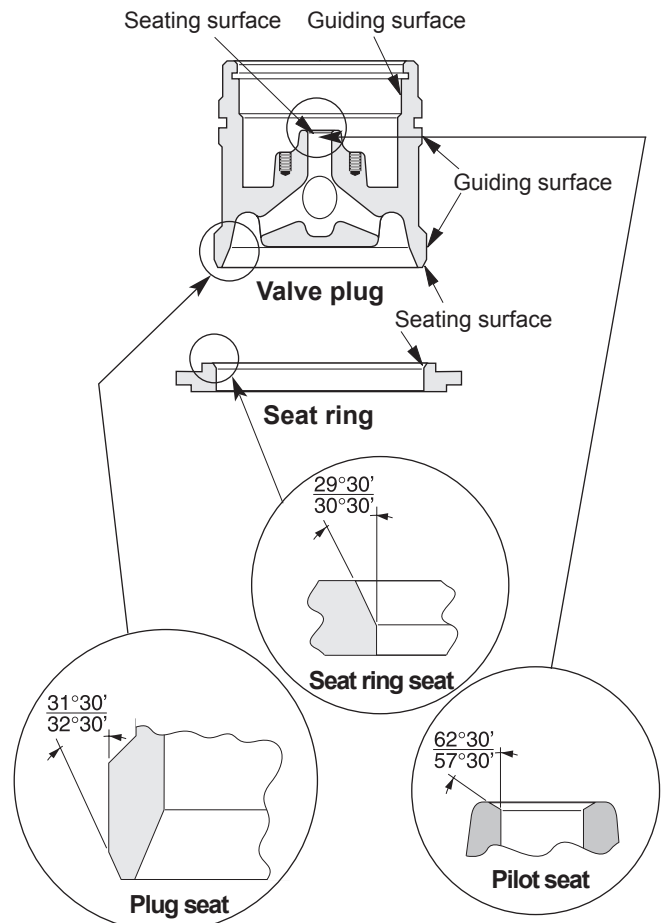

Figure 6 - Typical Seating Angles
- Place seat ring (13) in the body, noting the seating angle is up.
- Assemble the cage (10) and (if applicable) cage retainer (11) and the plug assembly (8) into the valve body (1) per the valve plug assembly instructions.
- Assemble the bonnet (2) and the guide bushing (20) if required.
- Place an appropriate tool on the valve stem (7) thread to allow for manual rotation.
- After lapping, disassemble the parts to clean them and then reassemble, making sure the seating angles are within tolerance. See Figure 6.